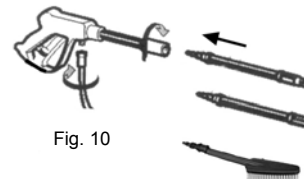

Fig. 10
3. Once the high pressure hose is connected to the trigger gun, you can attach any of the lances and accessories that you desire. To attach either of the lances or the brush to the trigger gun, hold the trigger gun in your left hand insert the desired lance or the brush into the connector on the trigger gun and turn it clockwise 60° until it locks in place. To remove the attachment, push down on the attachment and turn counter-clockwise 60° and then pull out. Make sure that the attachments are securely locked in place before use. (Fig. 10)